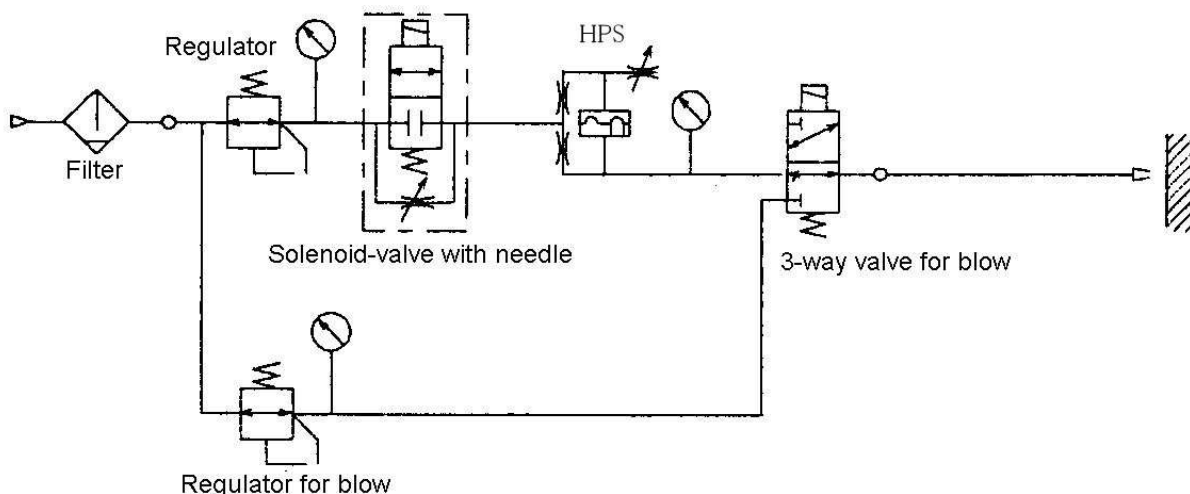

Figure 39 Circuit used with the gap switch includes a blow circuit
- If a circuit used with the gap switch includes a blow circuit as in Fig. 39, the minute flow of air will be supplied to the gap switch during the air blow operation as well, producing the ON signal. Design the control circuit in such a way that the Workpiece In Position signal will be rejected during the air blow operation.